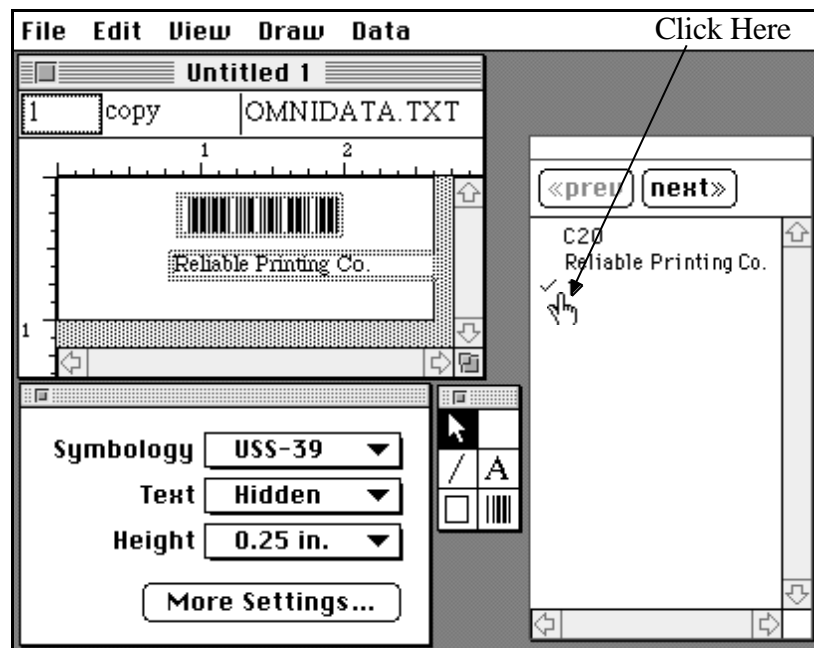

Figure 2-23 Attaching Data to the Copy Control Field
14. Select the third data field in the data palette. See Figure 2-23.